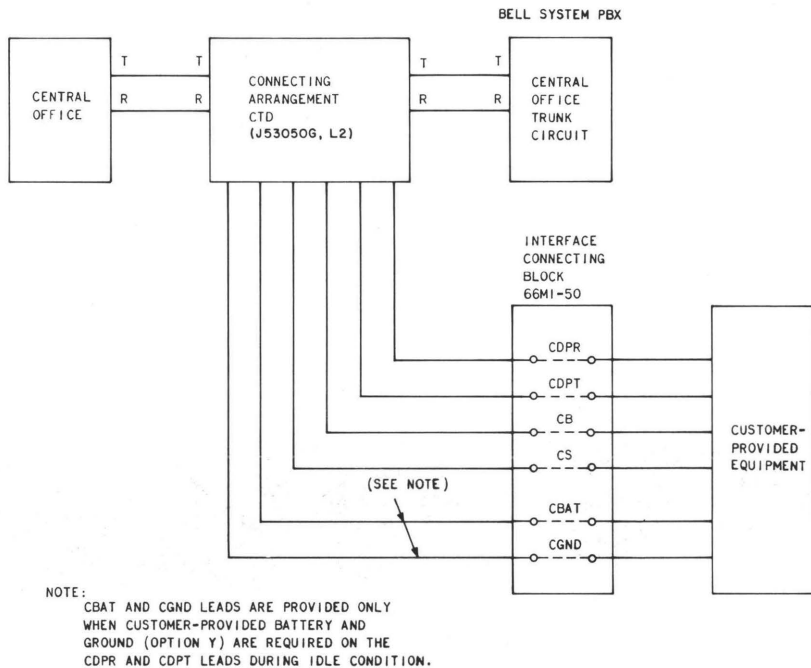
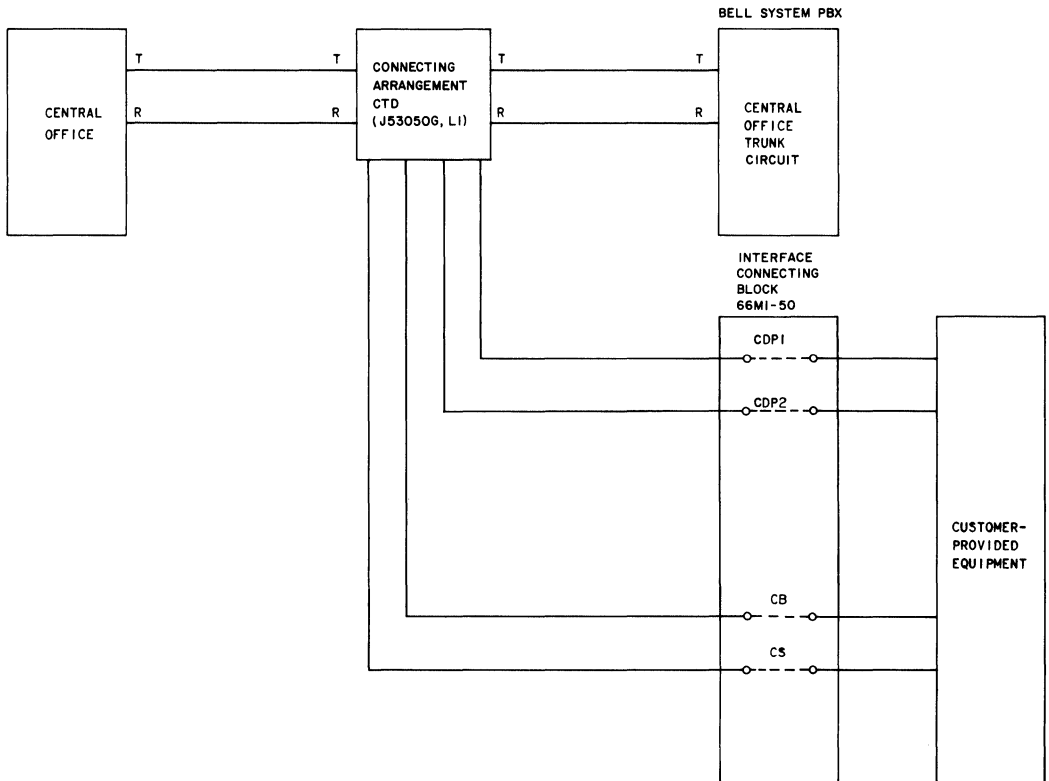
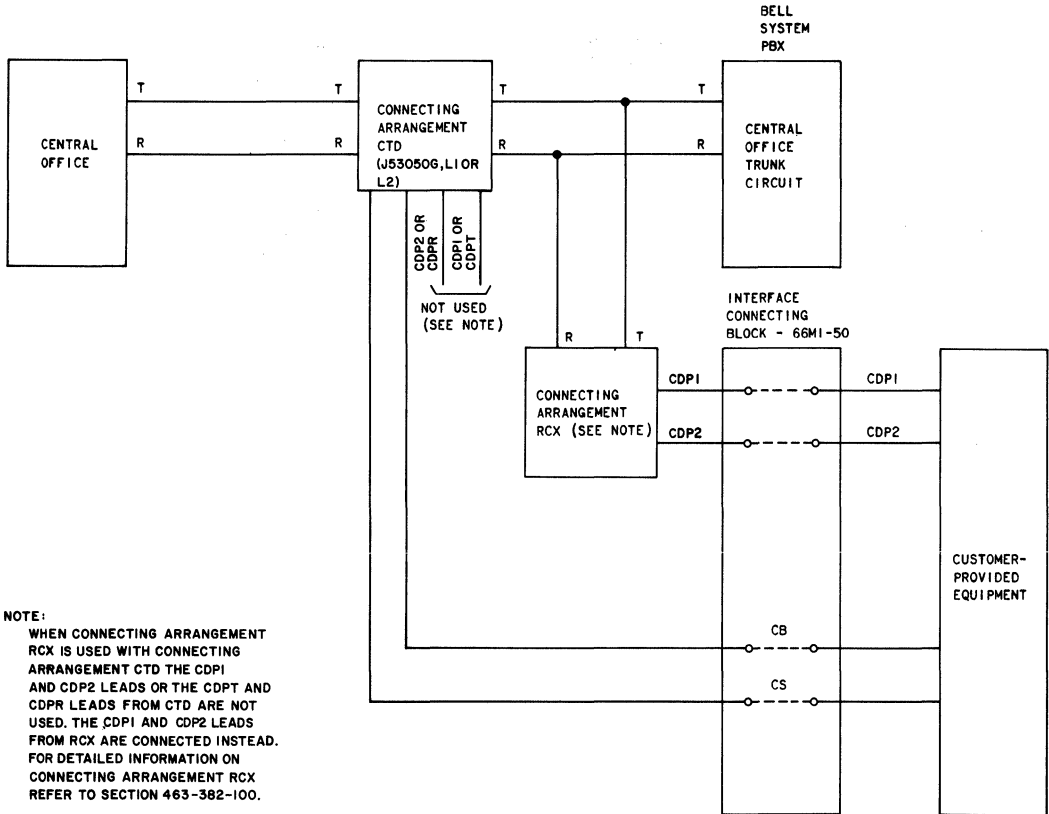

Fig. 3—Block Diagram—Typical Connecting Arrangement CTD—Using J53050G, List 2 IU
Fig 4—Block Diagram—Typical Connecting Arrangement CTD—Using J53050G, List 1 (MD) IU
Fig. 5—Block Diagram—Typical Connecting Arrangement CTD Used With Connecting Arrangement RCX
1.05 A block diagram of a typical Connecting Arrangement CTD, using a J53050G, List 2 IU, is shown in Fig. 3. A block diagram of a typical Connecting Arrangement CTD, using a J53050G, List 1 (MD) IU, is shown in Fig. 4. A block diagram of a typical Connecting Arrangement CTD used with a Connecting Arrangement RCX is shown in Fig. 5.